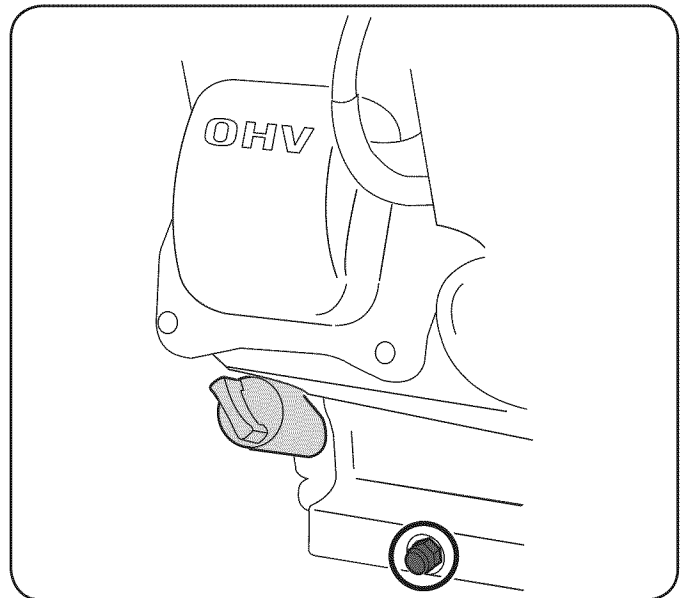

Figure 11
3. Remove the oil drain plug. See Figure 11.